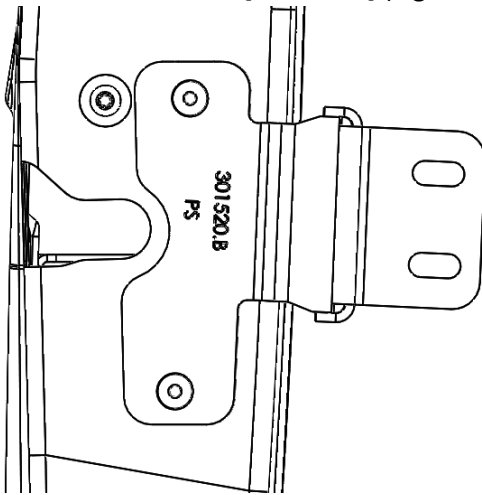

Figure 9: Inner Passenger Door Latch Installed
21. Install inner door bracket using provided countersunk hardware [PN 70458] (Figure 9).